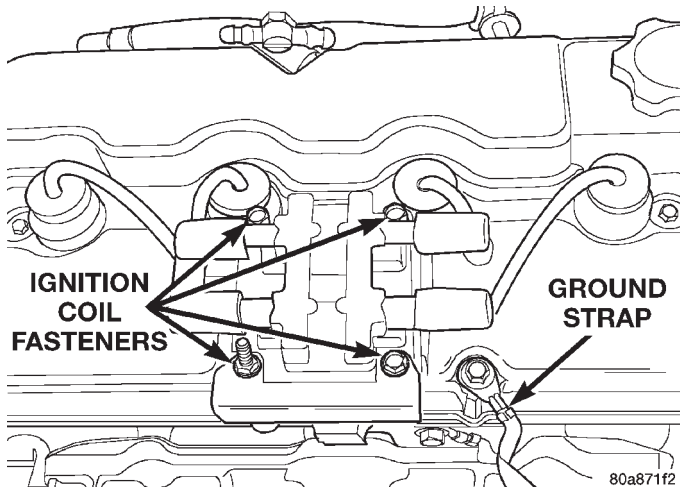

Fig. 24 Ignition Coil Pack and Ground Strap
- (1) Remove ignition coil pack and plug wires (Fig. 24). Remove ground strap.
- (2) Remove the cylinder head cover fasteners.
- (3) Remove cylinder head cover from cylinder head.